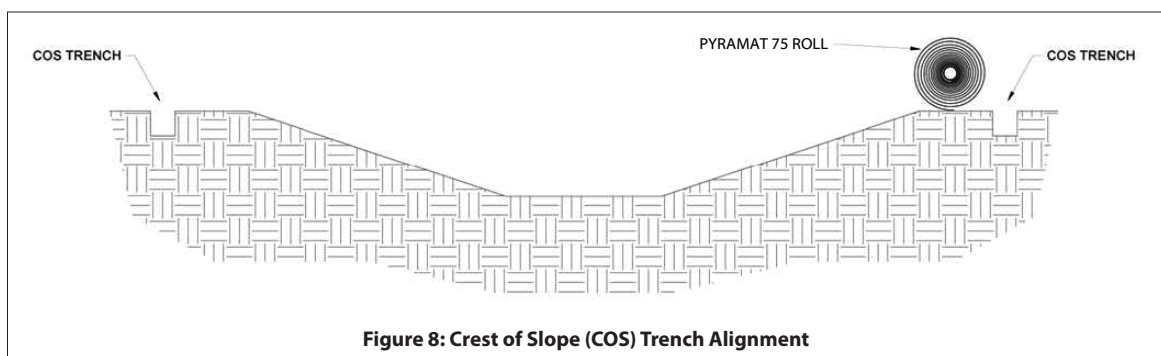

**Figure 6: Securing Pin**
3. Secure Pyramat® 75 with pins in the IC trench (Figure 5). Pins should be U pins with a minimum leg length of 150 mm and shall be made of mild steel minimum 4 mm in diameter. (Figure 6) Longer pins may be required for looser soils. Heavier metal stakes may be required in rocky soils. Suggested placement of pins for the IC trench is along the bottom of the trench with pins on 300 mm.